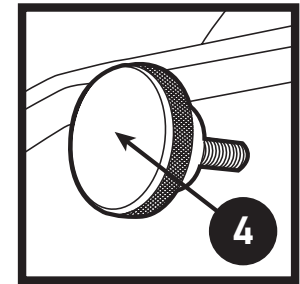

Figure 8
a. If the abrasive belt does not remain centered on the contact wheel while the belt is moving use the Tracking Adjustment Knob (Figure 8) on the upper left side of the machine to track the belt. Turn this control clockwise to cause the belt to track to the left; conversely, turn the control counterclockwise to cause the belt to move to the right.